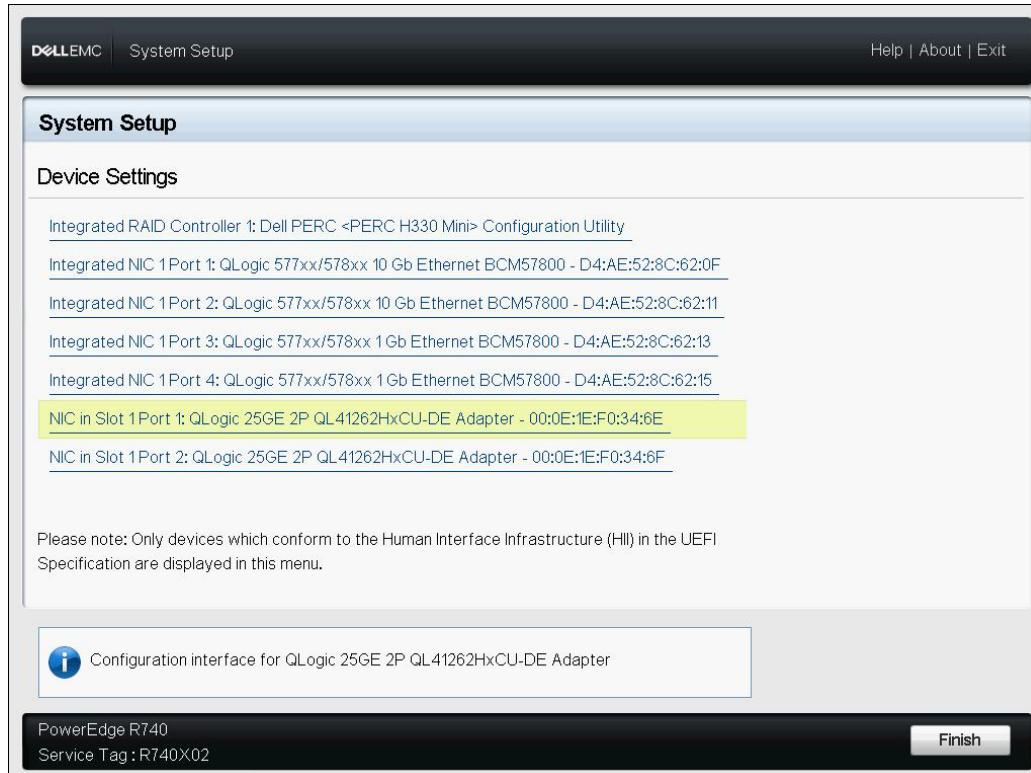

Figure 9-3. System Setup: Device Settings Configuration Utility
3. In System Setup, Device Settings, select the QLogic device (Figure 9-3). Refer to the OEM user guide on accessing the PCI device configuration menu.